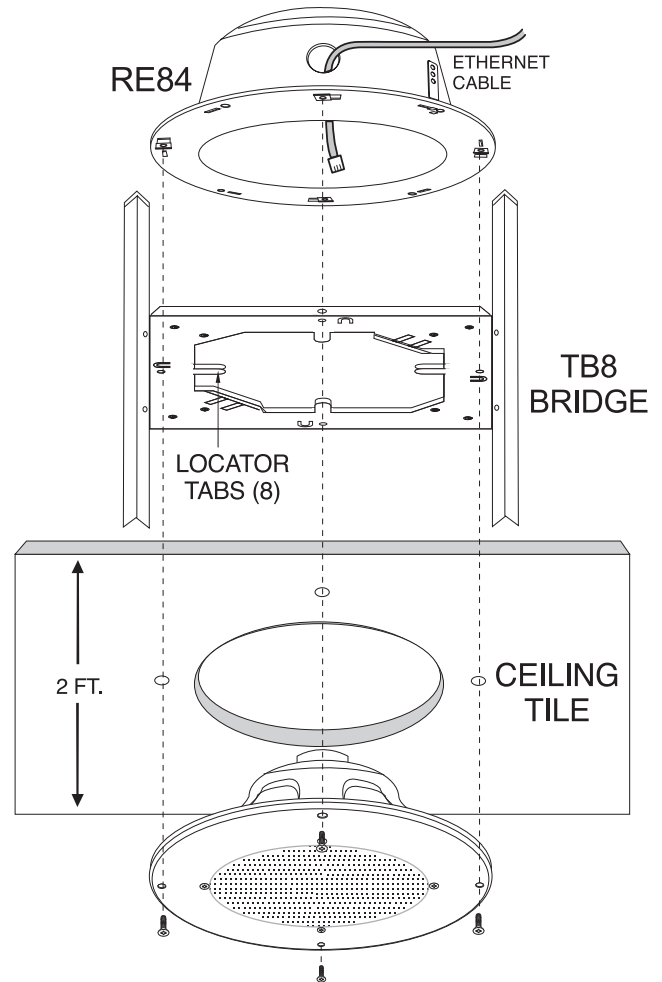

Figure 2
3. Position the TB8 over the hole in the tile and push down the locator tabs (Figure 2).